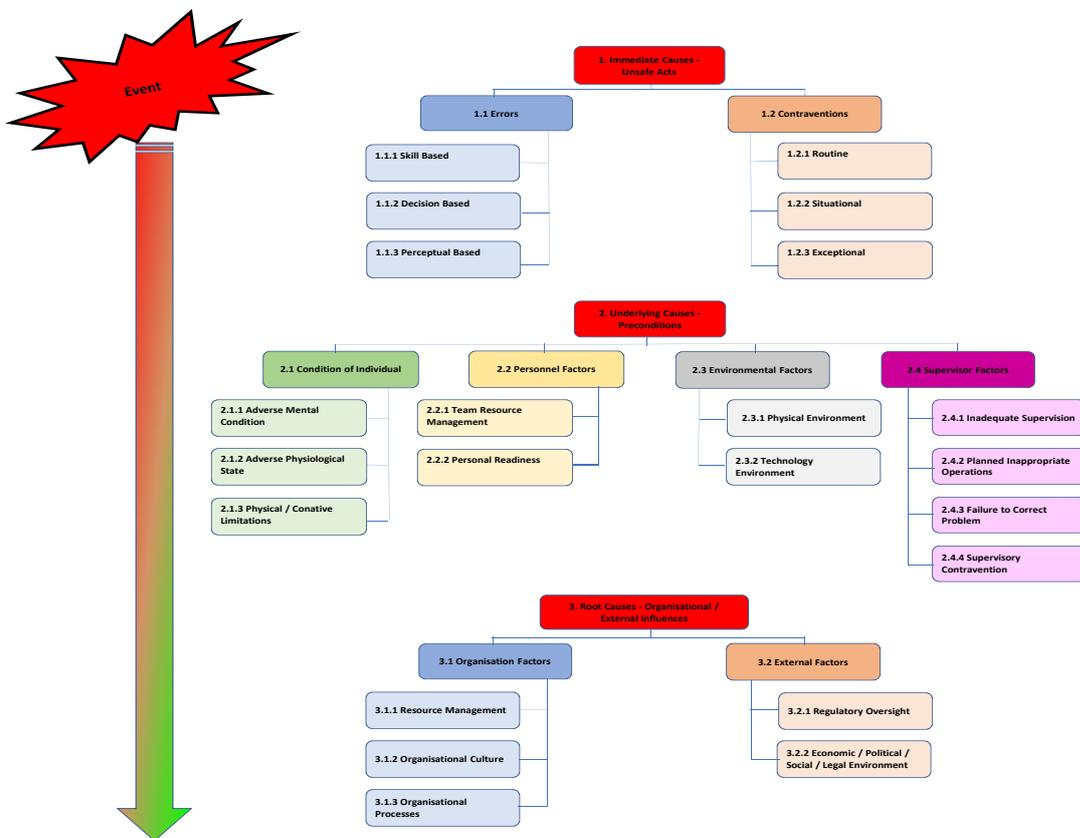

Figure 2: Root Cause Analysis (RCA) Model
- A Root Cause Analysis (see Figure 2) of findings is required to establish Immediate, Underlying and Root causes based upon evidence gathered. **Note:** Root Cause Analysis is not required for Level 1 Incidents. For Level 2 incidents, this will be optional dependent on learning and the discretion of HSW Senior Business Partner/Regional QHSEW Manager (Operate). See the Mace Root Cause Analysis Tool (RCA) for more information.